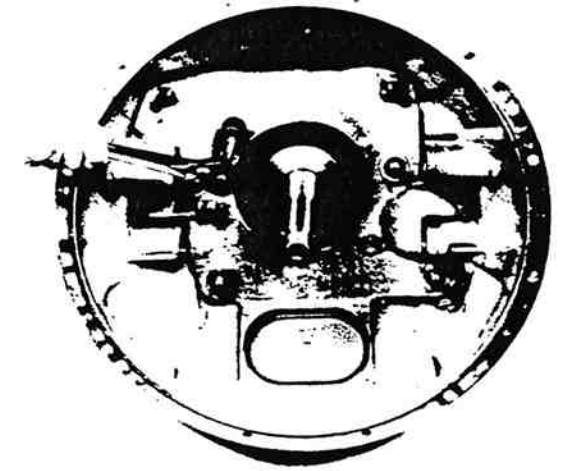

Figure 13-30. Removing Nuts from Studs.
2. Remove the four bolts and remove the six nuts and lock washers from studs at front of case (figure 13-30).